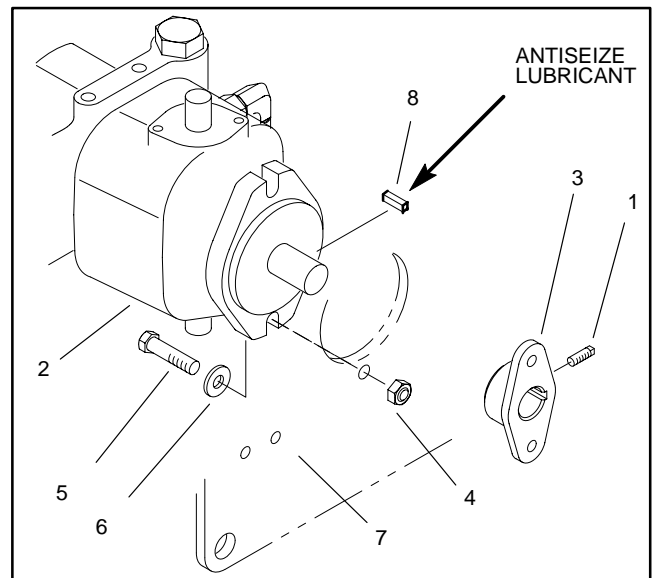

Figure 26
- A. Loosen set screw securing the hydrostat shaft to the hub (Fig. 26).
D. Remove both locknuts, cap screws, and flat washers securing the hydrostat to the pump plate. Be careful not to lose the key (Fig. 26).
A. Apply antiseize lubricant to the key and install into hydrostat shaft. Slide shaft and key into hub (Fig. 26).
D. Secure hydrostat shaft to the hub by tightening set screw (Fig. 26).